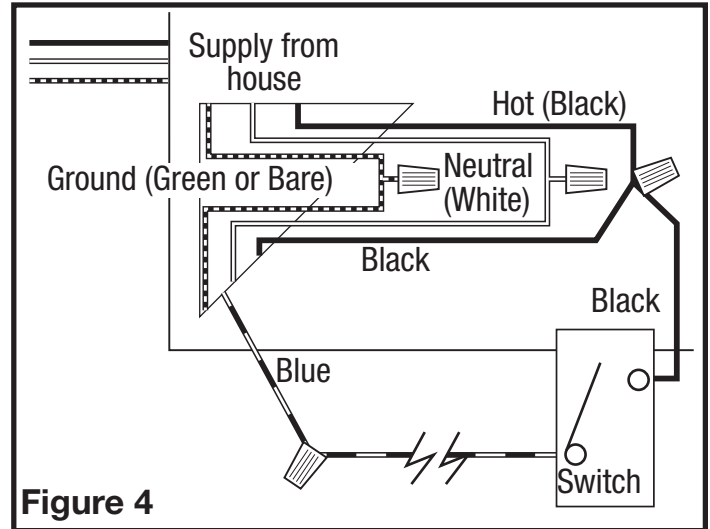

Figure 4
2. **Continuous Ventilation:** For two speed fans wired for continuous ventilation, connect the White wire of the fan to the White (Neutral) wire from the power source. Connect the ground wire from the house to the green wire from the fan housing. Run 2 wires from a properly grounded wall switch (not included) to the fan. Connect the Black wire of the fan and one wire from the wall switch to the Black wire (Hot) from the power source. Connect the other wire from the wall switch to the Blue wire of the fan. Closing the switch will change from normal to high speed (Figure 4).